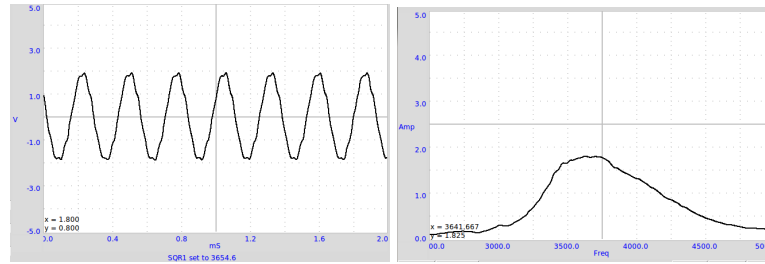

Figure 5.1: (a) Digitized sound wave (b) Frequency response curve of the Piezo disc
**Observation** The amplified output of the microphone is shown in figure 5.1(a). The amplitude is maximum near 3500 Hz, due to resonance. Driving with 1200Hz gives more amplitude than 2000Hz, due to the third harmonic of the square wave matching the resonant frequency.
**Observation** The Frequency Vs Amplitude plot is shown in figure 5.1(b). The amplitude is maximum around 3700 Hz.